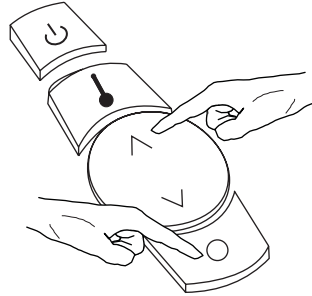

Figure 16
The sleep symbol **SLEEP** will appear on the screen indicating that you are in the sleep timer setting menu. **See Figure 16.**
2. The figures 00:00 appear in place of the current time. Use the up and down button to set the countdown time. Press arrow up to increase the countdown setting, or press arrow down to decrease the countdown setting. **See Figure 16.**
3. To confirm the setting and exit the sleep setting menu, press the menu button twice more. **See Figure 16.**